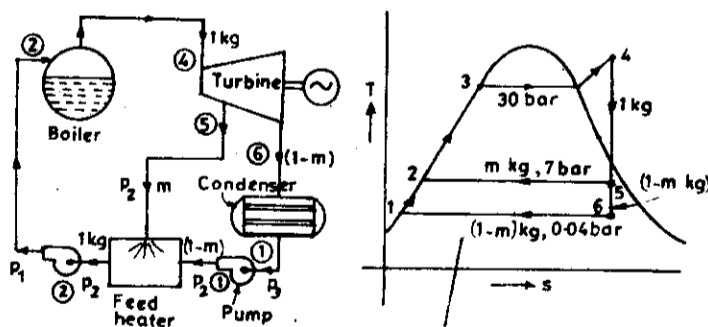

Fig. Prob. 22.17 (a).
**Solution.** (b) The arrangement of the components of the system is shown in Fig. Prob. 22.17 (a) and the processes are shown on  $T-s$  and  $h-s$  charts.